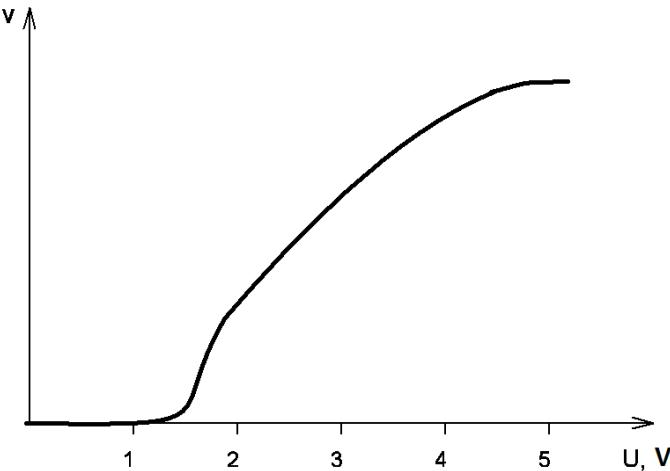

Figure 5.5 – Dependence of motor shaft rotation speed versus voltage on output «Speed»
**«Speed».** An input of motor shaft rotation velocity setting. Speed control range is within 1.5...4.5 V. Depending motor shaft rotation speed versus input voltage “Speed” is presented on Fig. 5.5 and 5.6 (for control types “B” and “E”).